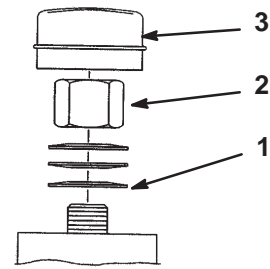

Figure 50
2. Remove dust cap from caster and tighten lock nut (Fig. 50).
3. Tighten until spring washers are flat and then back off a 1/4 turn to properly set the pre-load on the bearings (Fig. 50).
Important Make sure spring washers are installed correctly as shown in figure 50.
4. Install the dust cap (Fig. 50).